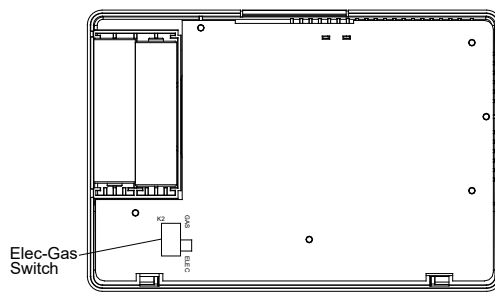

Figure 1. Electric/Gas Switch (Fan Option)
This thermostat is configured from the factory to operate a heat/cool, fossil fuel (gas, oil, etc.), and forced air system. It is configured correctly for any system that DOES NOT require the thermostat to energize the fan on a call for heat. If your system is an electric heat or heat-pump system that requires the thermostat to turn on the fan on a call for heat, locate the ELEC/GAS switch on the back of the thermostat (see fig. 1) and switch it to the ELEC position. This will allow the thermostat to energize the fan immediately on a call for heat. If you are unsure if the heating/cooling system requires the thermostat to control the fan, contact a qualified heating and air conditioning service person. When the thermostat is configured for Heat Pump, the thermostat will always power the circulator fan on a call for heat in the HEAT mode. The ELEC/GAS switch must be set to match the type of Auxiliary heat your system uses for proper operation in the EMERGENCY mode.
- Fasten base loosely to wall, as shown in fig. 1, using two mounting screws. Place a level against bottom of base, adjust until level, and then tighten screws. (Leveling is for appearance only and will not affect thermostat operation.) If you are using existing mounting holes, or if holes drilled are too large and do not allow you to tighten base snugly, use plastic screw anchors to secure subbase.